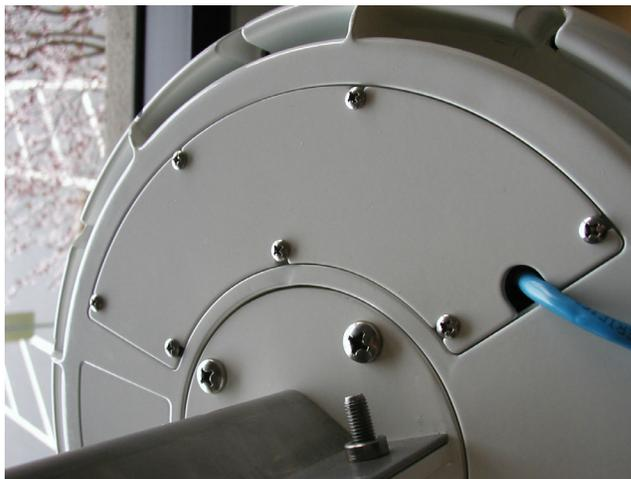

Figure 2-5 Cover Installed
5. Install the cover using the provided screws. The Ethernet cable is positioned to pass through the insert in the cover, as shown in Figure 2-5.